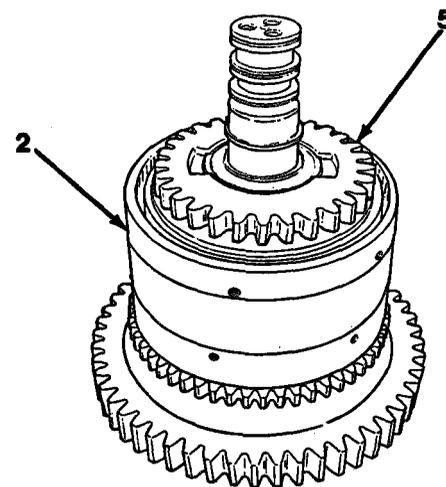

Figure 11-16
26. Install high gear welded assembly (5) on clutch shaft assembly (2, Figure 11-16).